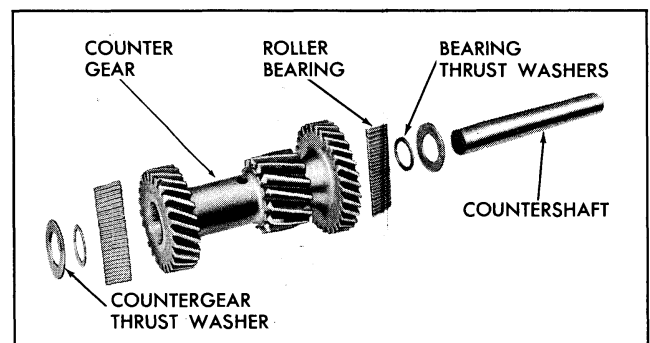

Fig. 7-31 Countergear Assembly
3. Apply grease to bearing thrust washers and countergear thrust washers and place bearing thrust washers, followed by countergear thrust washers, at both ends of countergear (Fig. 7-31), making certain tangs on countergear thrust washers face out.